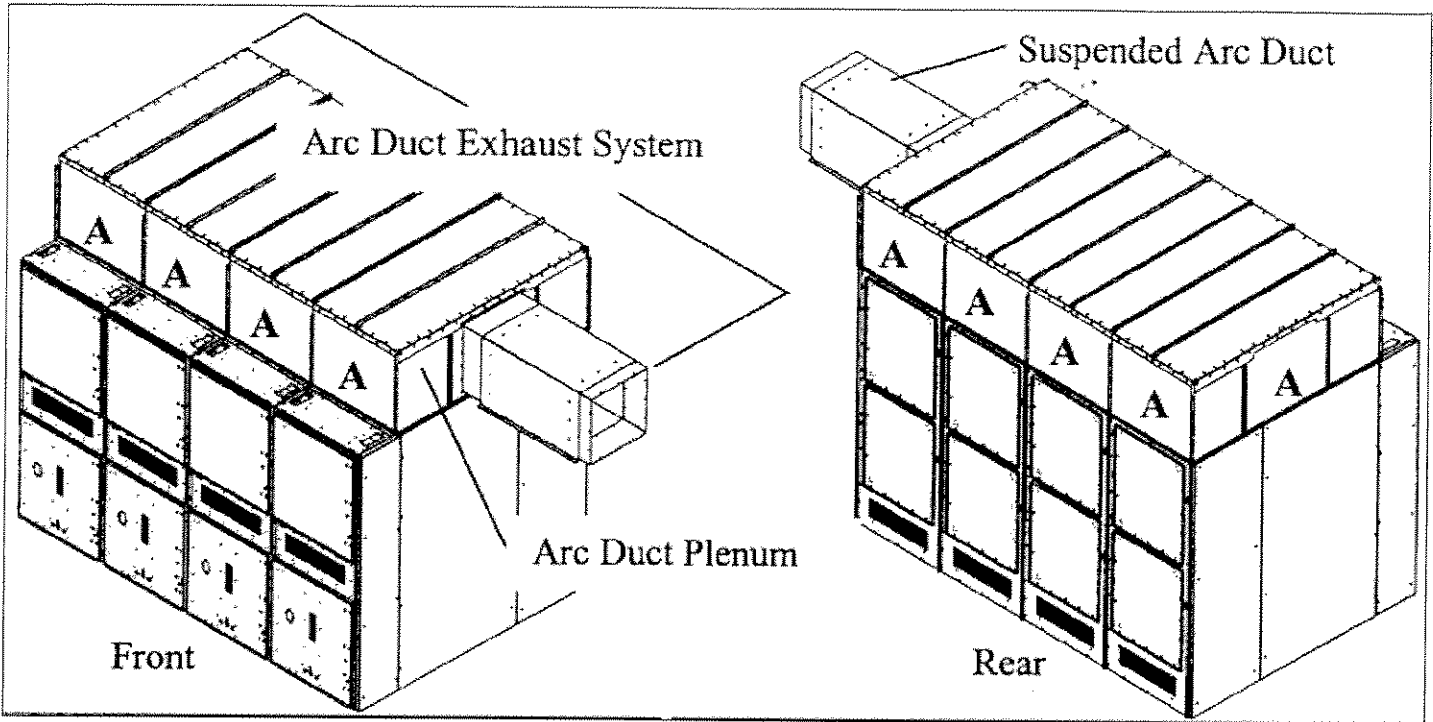

Figure 20. A Typical Arc Resistant Switchgear Lineup with Arc Duct Exhaust System
The following instructions and illustrations show how to assemble an arc duct exhaust system to the roof of a 5 kV or 15 kV arc resistant switchgear lineup. The example construction is on a four-cell lineup with the suspended duct exiting the right side of the switchgear arc duct plenum as shown in Figure 20. The method of assembly is the same for smaller and larger switchgear lineups, or when placing the suspended duct in a different location than described in these instructions.
2. One suspended arc duct section is required for a two-cell lineup and greater and can be installed in a number of locations (A) as shown in Figure 20.